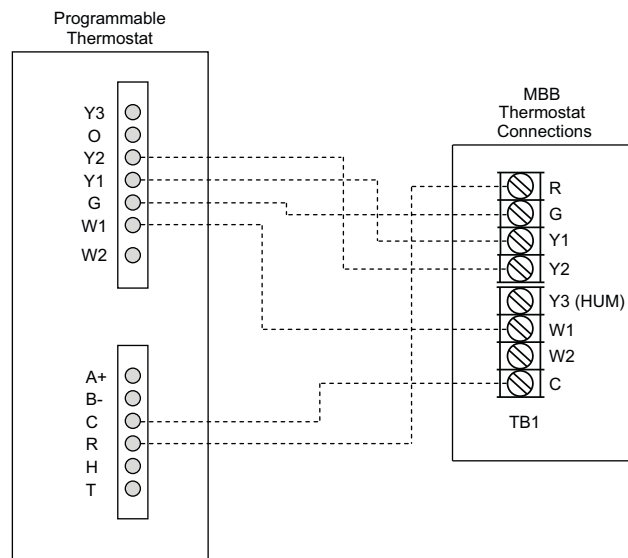

Fig. 41 — Typical Thermostat Connections — SystemVu Controller MBB
5. For connections to the SystemVu controller units see Fig. 41. Refer to the installation instructions included with the Carrier Connect Plus thermostat for more information.